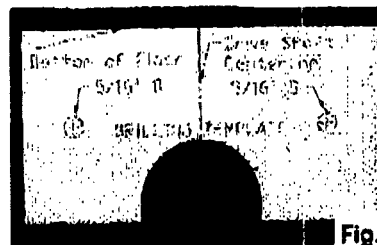

Fig. 20
17. Next, place the template (Fig. 20) on the back side of the rear cross-member, place the centerline over the center of the drive shaft and slide the template up to the bottom of the floor. Center punch the center location of the $\frac{5}{16}$ " diameter holes and then using a drill, with a $\frac{5}{16}$ " drill bit and positioned level with the bottom of the floor, Drill completely thru the rear cross-member. These holes should align with the slots in the brake assembly mounting flanges. Insert the $\frac{1}{4}$ " carriage bolts thru the mounting flanges on the brake assembly and thru the rear cross-member, install the $\frac{1}{4}$ " nuts with star washer onto each carriage bolt and tighten against the back of the rear cross-member.